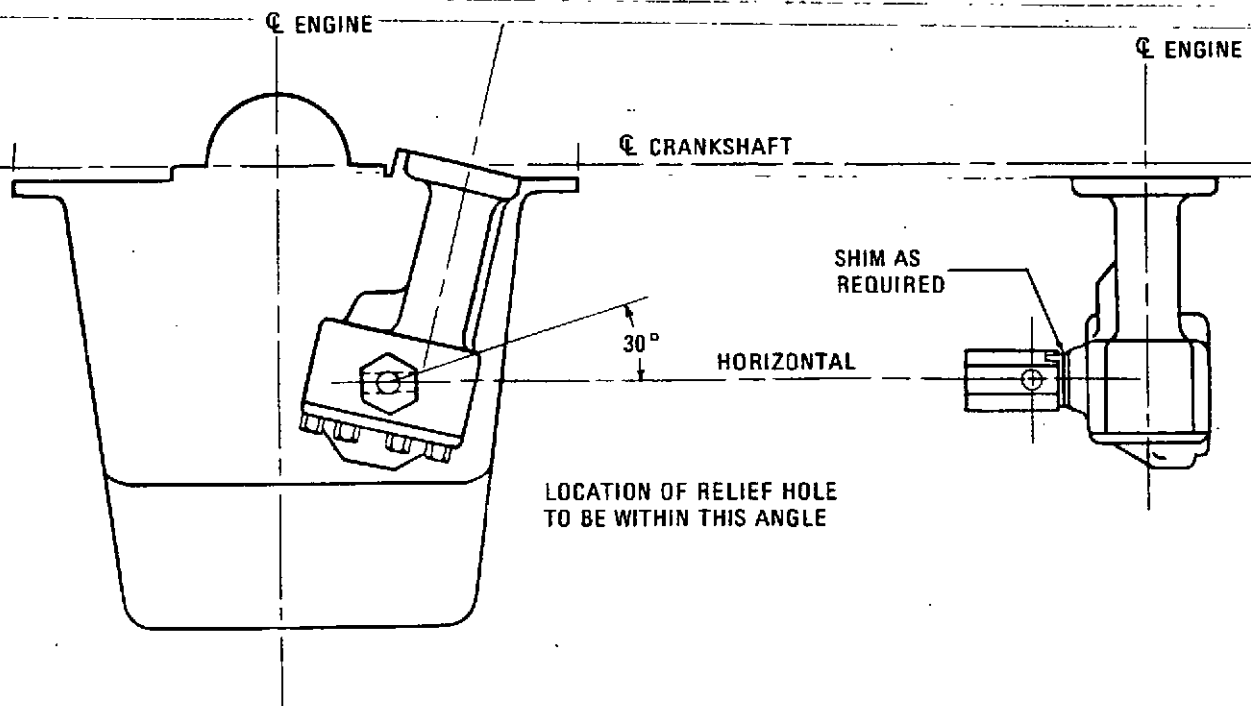

Figure 5-6. Oil Pressure Regulator Installation
4. Install the pump impeller cover (11) and secure with bolts (8), assembled washer bolts (10), and washers (9). Tighten the bolts progressively and evenly.
5. When inserting the oil pump into the cylinder block, make sure the arrow on the oil pump gear is aligned with the arrow on the fuel pump attaching pad. The positions of the arrows are the same when timing to cylinder number one, four, or six on either left- or right-hand camshaft applications. Secure pump with two bolts (1) and lock washers (2). Tighten bolts securely but not excessively.
6. Install the oil pump strainer (6) on the pump impeller cover by turning in clockwise. Do not apply force against the screen.
7. Install the 65 psi oil pressure regulator (3) with a new lock washer (4). The regulator, when mounted on the pump, must be turned so that the relief hole is aligned within 30° of horizontal (see figure 5-6). This position will prevent oil from spraying up into the cylinder bore, and will direct the spray toward the center of the engine and against the oil pan surface. If the oil pressure regulator is in an incorrect